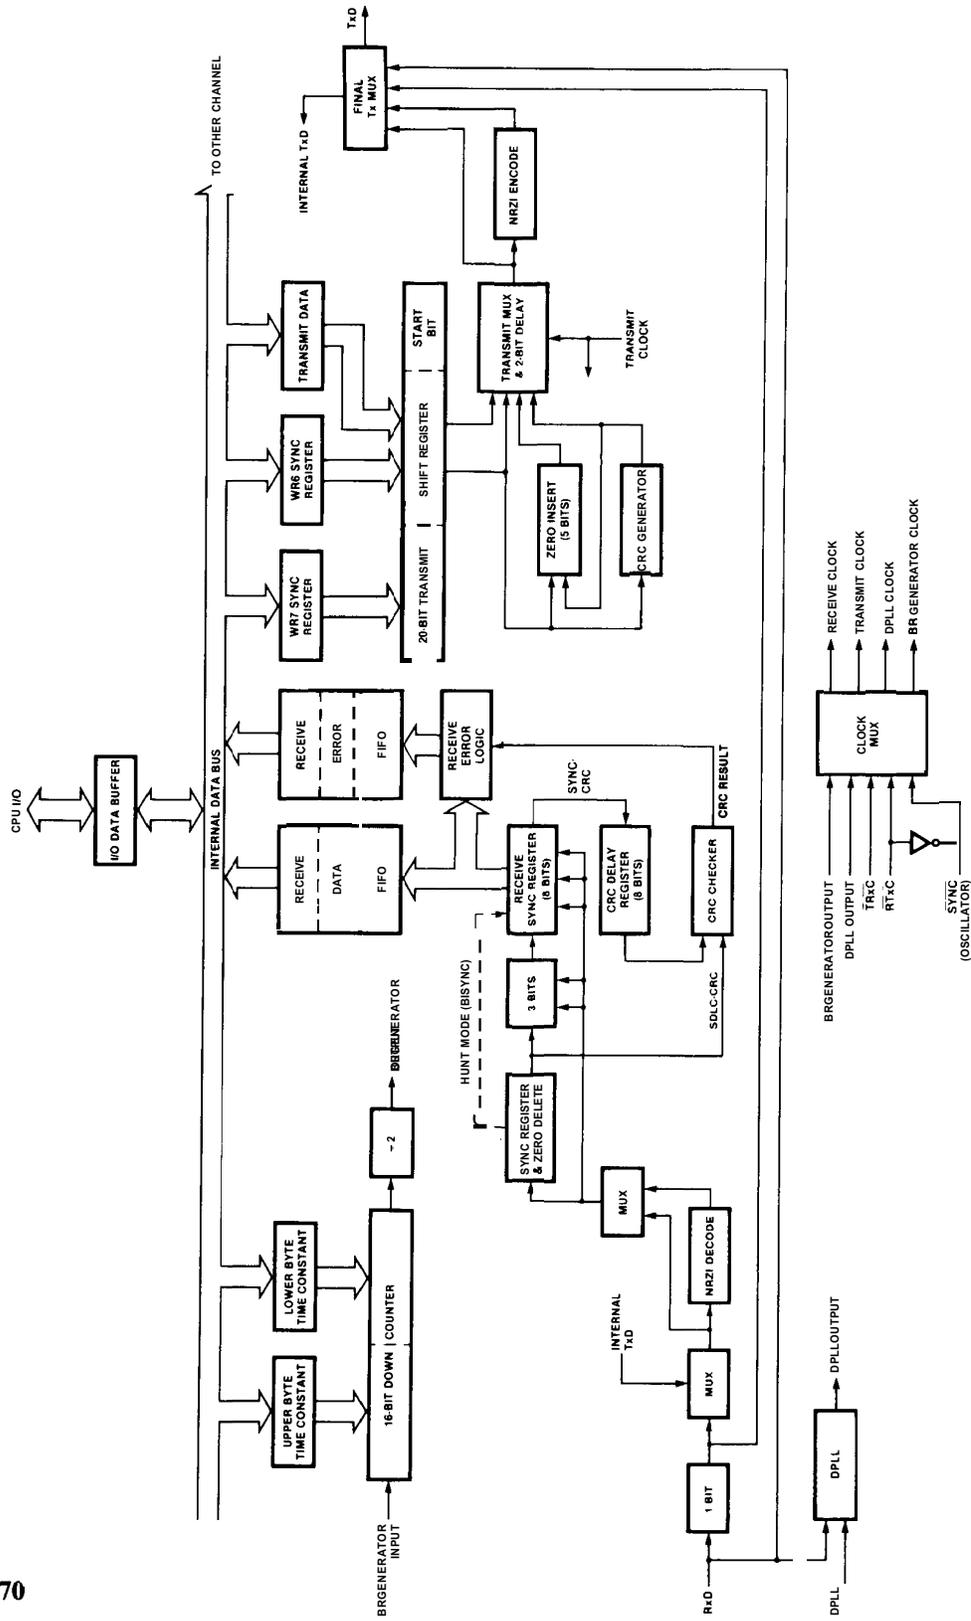

Figure 11.13. Zilog 8530 serial port block diagram. (Courtesy of Zilog, Inc.)
**Serial and parallel ports.** The Zilog 8530 SCC (serial port) and 8536 CIO (parallel port and timer) typify large-scale-integration (LSI) peripheral support chips. These tend to be designed with lots of flexibility and a dizzying choice of operating modes, programmed by sending particular bytes to one or more internal registers. Many of these chips are as complicated as microprocessors (see Fig. 11.13), and you should figure on spending up to a half day learning how to program their operation.